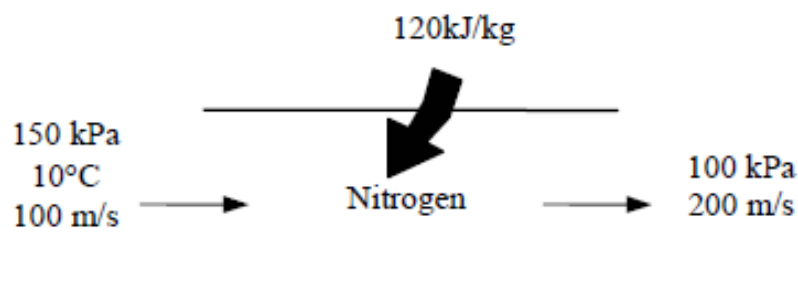

Figure 4 (a)
4. (a) Nitrogen enters a steady-flow heat exchanger at 150 kPa, 10°C, and 100 m/s, receiving 120 kJ/kg of heat during its passage as shown in Figure 4 (a). It exits the heat exchanger at 100 kPa and 200 m/s. Calculate the Mach number of nitrogen at both the inlet and the outlet of the heat exchanger.